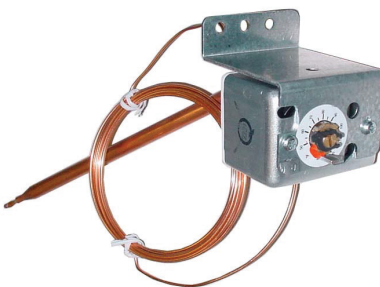

Figure 34. Unit-Mounted Ductstat
- **Ductstat with capillary tubing (option AG3):** The unit-mounted ductstat (see Figure 34) has an adjustable range of 0°F to 100°F (–17.8°C to 37.8°C) with a fixed differential of 3°F (1.7°C). The sensor is factory-set at 70°F (21.1°C). Due to different CFM settings and outside air temperatures, the average downstream outlet temperature may not match the ductstat setting exactly. After the installation is complete, adjust the setpoint of the ductstat to achieve the desired average outlet air temperature..